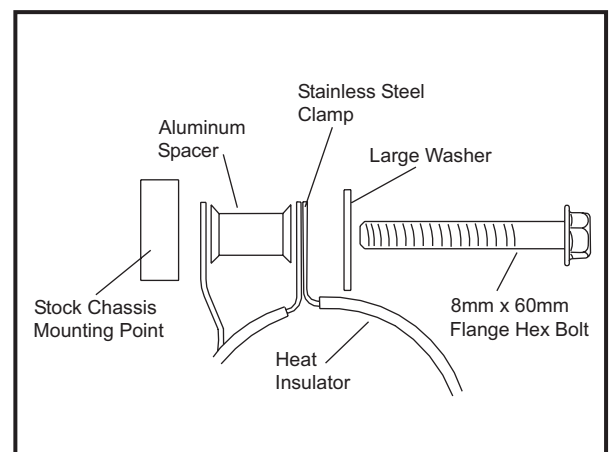

Fig. 5
13. Apply heat insulator to inside of muffler clamp and slide clamp onto muffler. (Note direction of clamp in Fig. 5)